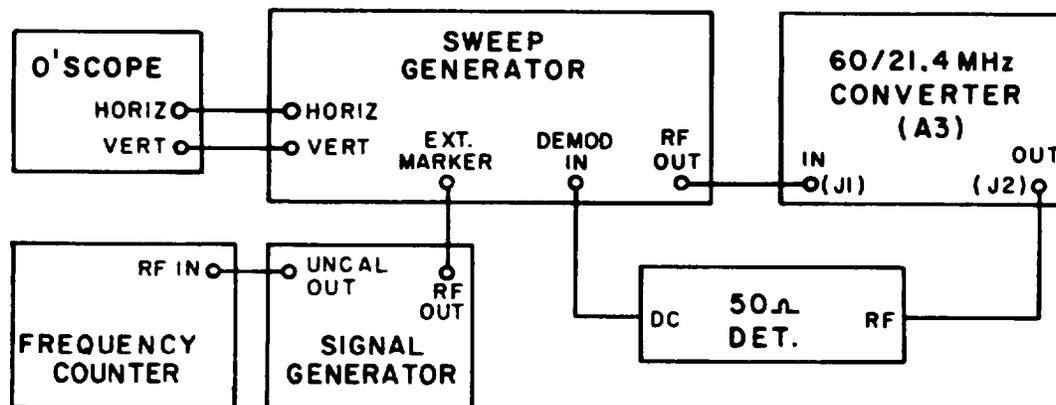

Figure 4-20. Test Setup, 60 MHz/ 21.4 MHz Converter Assembly Alignment
- (1) Connect the equipment as shown in Figure 4-20. Use J1 for the input and J2 for the output of the Converter.
- (2) Set the oscilloscope controls to view a sweep response. Set the vertical sensitivity to view a 60 mV signal.
- (3) Set the sweep generator controls for a center frequency of 60 MHz and a level of -10 dBm.
- (4) Set the signal generator controls for a 60 MHz CW output at a level sufficient to produce a marker.
- (5) Readjust the sweep width controls to display a 2 MHz/cm response.
- (6) Carefully adjust A1C3 for a maximum amplitude response centered on the 60 MHz marker.